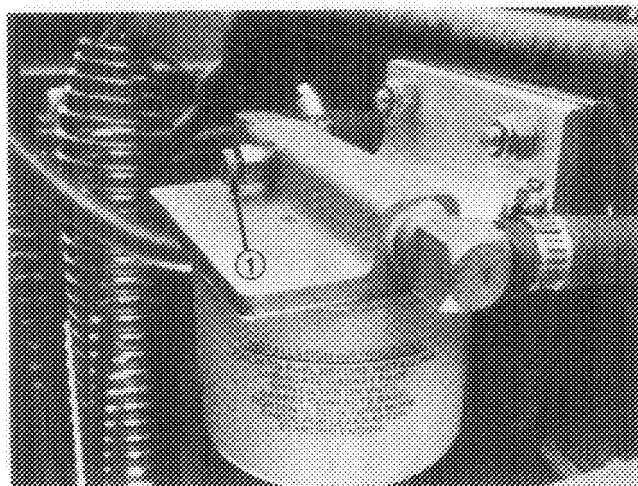

Figure 32
BLEEDING FUEL SYSTEM (Fig. 32 & 33)
2. Loosen air bleed screw on top of fuel filter/water separator (Fig. 32).